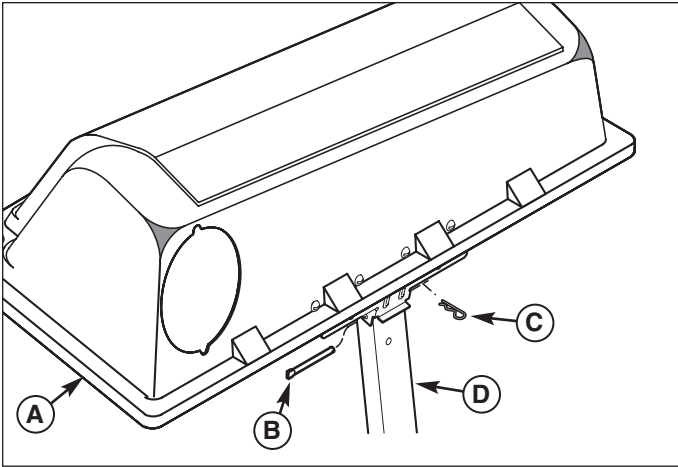

Figure 11. Install Cover to Channel Assembly
1. Set the cover (A, Figure 11) on channel assembly. Slide pin (B) through hinge on cover and channel assembly (D) securing with hair pin (C).